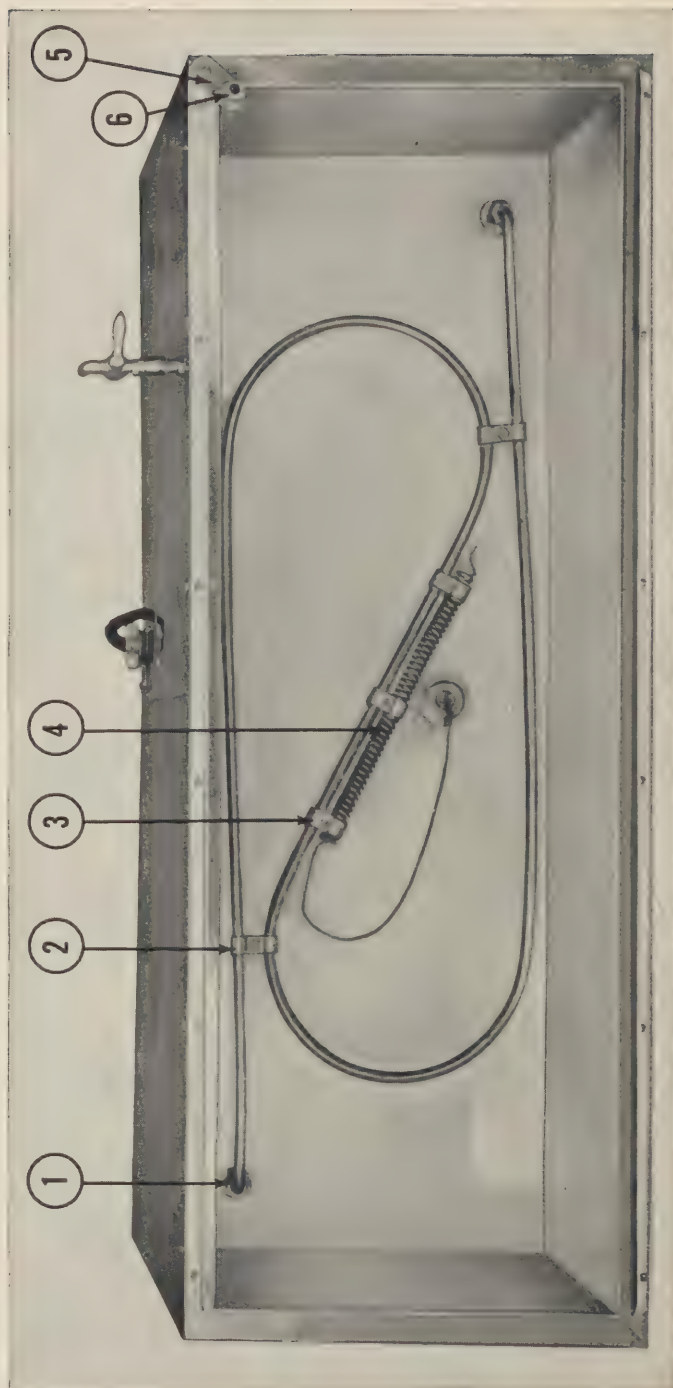

Figure 4. Item No. 4479008 water bath, serological, inactivating. Inside view.
(4) Connect the constant level regulator to a suitable water inlet and drain outlet. The water inlet is located on the side of the constant level regulator and is furnished with a hose connection. The overflow connection is located at the bottom of the constant level regulator.
(5) Remove the thermometer from its case and insert into the thermometer well on top of the center column, (4) figure 4, and tighten the thermometer coupling, (6) figure 10, after the proper height has been determined. See paragraph 6b(3).
(6) Connect the ground terminal located on the rear of the bath near the bottom to a water pipe or well grounded conduit system.